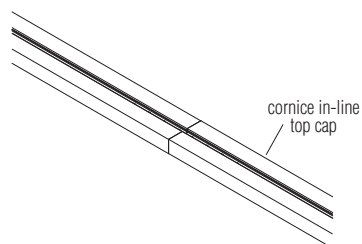
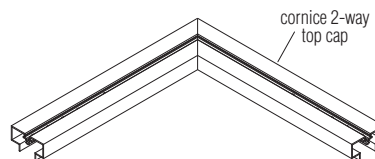
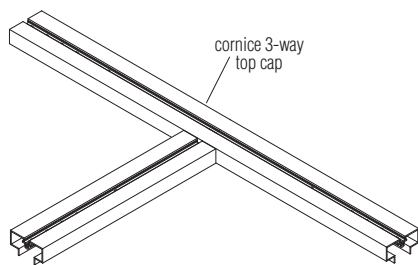
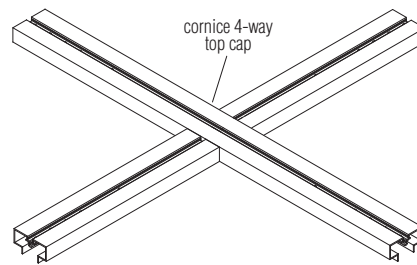

Figure 1 - In-line Condition
Figure 2 - 2-Way Condition
Figure 3 - 3-Way Condition
Figure 4 - 4-Way Condition
1. Cornice top cap conditions are available in in-line (Figure 1), 2-Way (Figure 2), 3-Way (Figure 3) and 4-Way (Figure 4). These corner conditions come pre-assembled with the exception of the in-line condition. In-line will be created in the field.